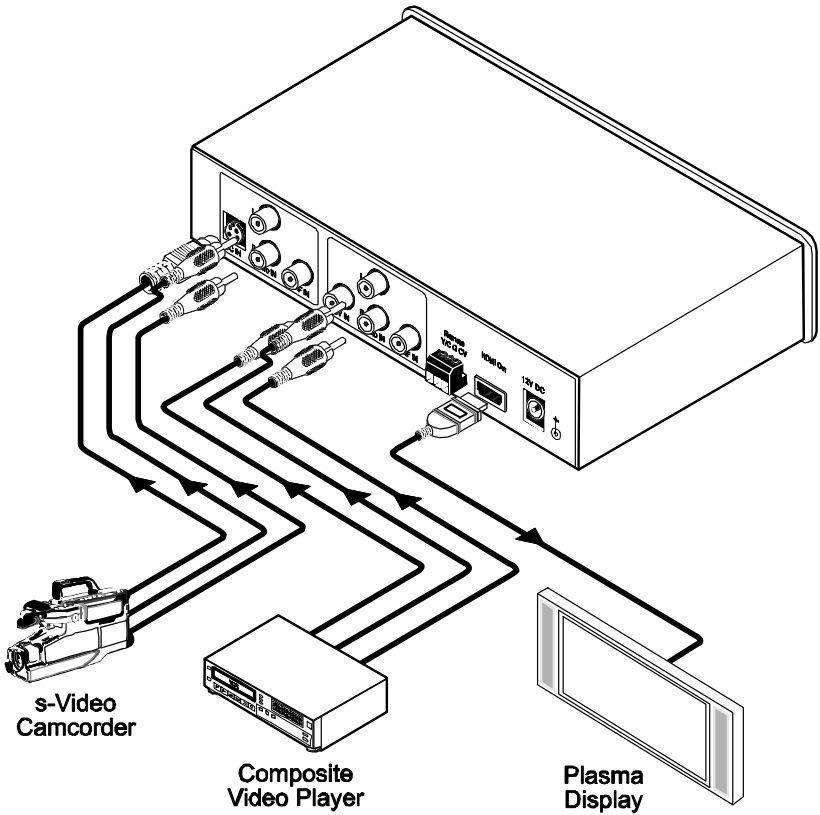

Figure 2: Connecting the VP-418 Video to HDMI Scaler
To connect your **VP-418**, as the example in Figure 2 illustrates1, do the following2:
6. Connect the 12V DC power adapter to the power socket and connect the adapter to the mains electricity (not shown in Figure 2).